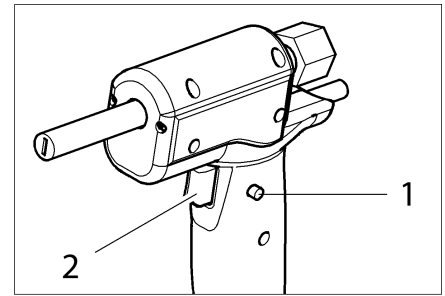

Fig. 10: Actuating the blasting gun
- Press the safety button (item 1 in Fig. 10) on the blasting gun.
- Press the trigger (item 2 in Fig. 10) on the blasting gun.
- Release the trigger (item 2 in Fig. 10). The dry ice jet stops immediately.